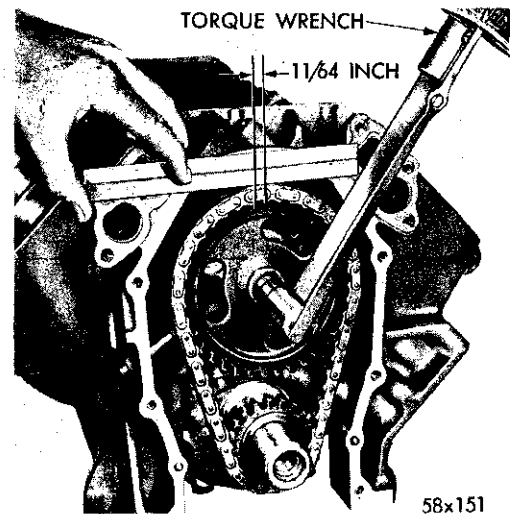

Fig. 20—Measuring Chain Stretch
(3) Holding a scale with dimensional reading even with edge of a chain link, apply torque in the reverse direction 30 foot-pounds (with cylinder heads installed) or 15 foot-pounds (cylinder heads removed), and note the amount of chain movement, as shown in Figure 20.
(4) Install a new timing chain, if its movement exceeds  $1\frac{1}{64}$  inch.
(5) If the chain is satisfactory, slide the crankshaft oil slinger over the shaft and up against the sprocket (flange away from the sprocket).
(6) If the chain is not satisfactory, remove the camshaft sprocket attaching bolt.
(7) Remove the timing chain with the crankshaft and camshaft sprockets.